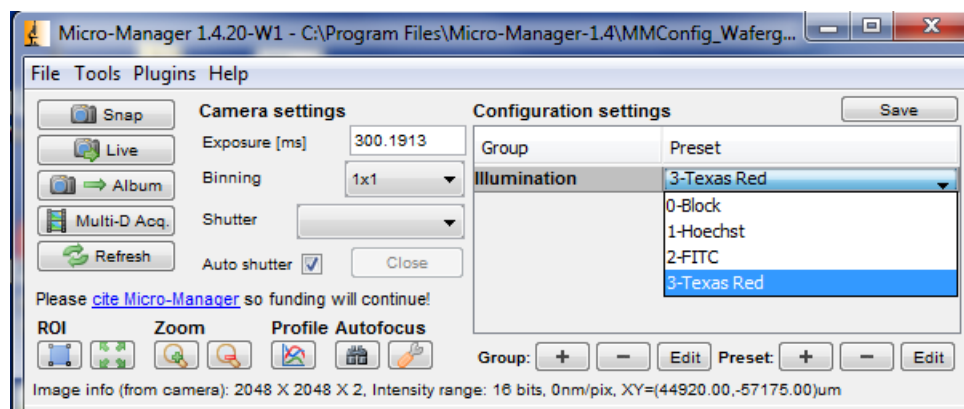

Figure 16. Setting the illumination channel to Texas Red.
12. In the *Main* window, under "Configuration settings", select **Texas Red** as the illumination channel for examination of fiducial-containing nanowells (Figure 16).